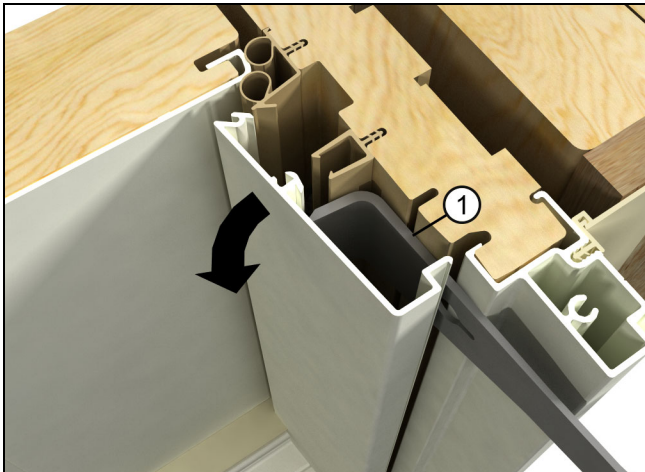

Figure 15 Need to update
2. Once the outer edge of the stop is loose, insert a pry bar all the way under the stop and pry the stop from the weather strip. See Figure 15.